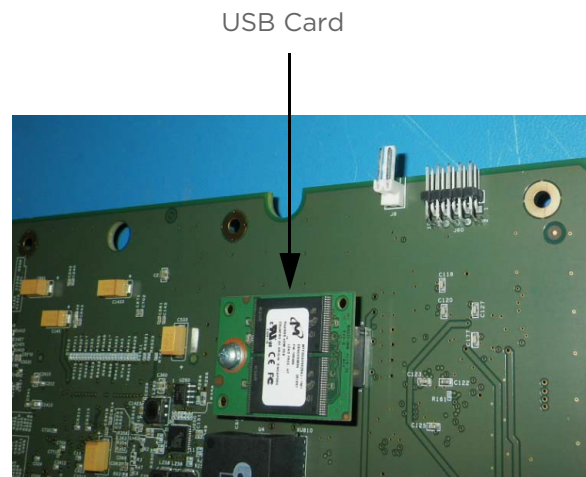

Figure 4-7 USB Flash Drive
- 9** To replace the USB card, remove the screw that attaches the old USB to the CPU PCB. Install the new USB card. Refer to Figure 4-7 on page 4-13.
- 2 Complete replacement of the CPU PCBA transfers a nonformatted and nonprogrammed USB drive PCBA into the qube monitor. Refer to Figure 4-7 on page 4-13 to identify the location of the USB drive.
- 1 Locate the USB Drive is on the back side of the CPU PCBA. Refer to Figure 4-7 on page 4-13 for the location of the USB Drive.